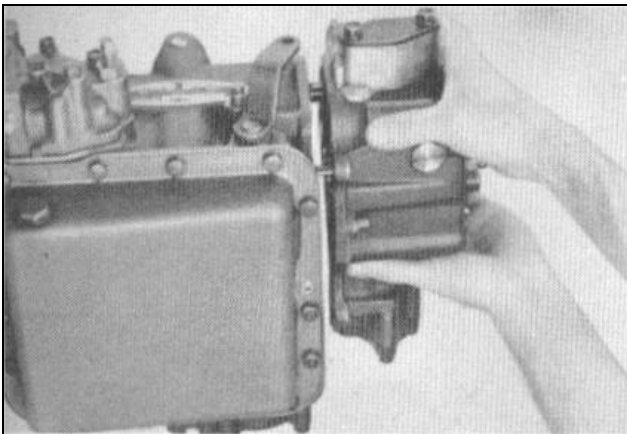

FIGURE 26
9. Slide the extension case rearward carefully, Figure 26.